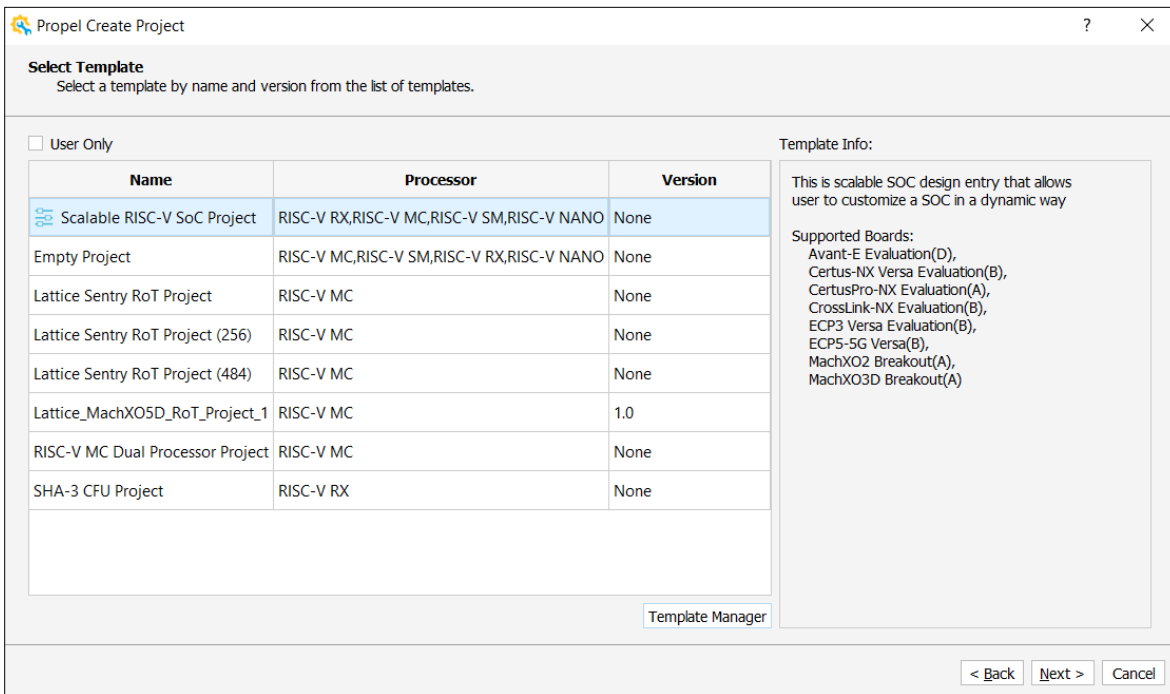

Figure 2.7. New SoC Project – Select Template
- Click **Next**. You can get detailed information on Template in this flow (Figure 2.7).